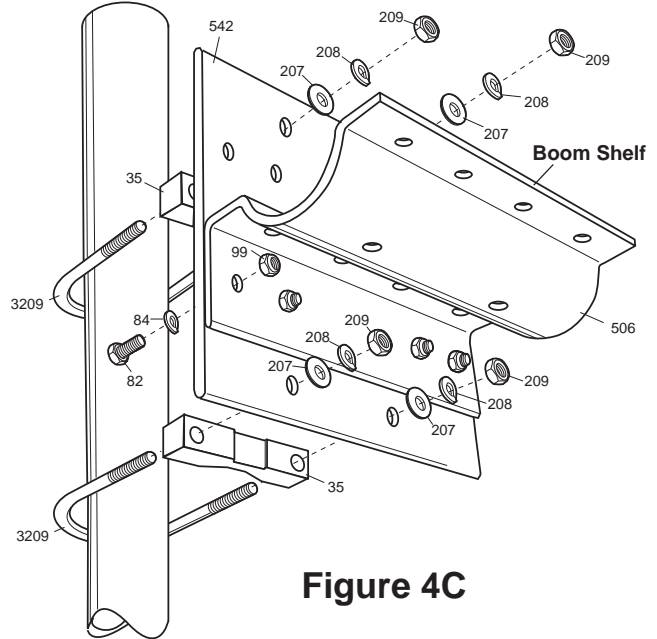

Figure 4C
The feed system consists of 2 sub-assemblies. They are the feed-straps (Figure 4B) and the matching network (Figure 4C).
Reference Figure 4C for matching network mounting. Attach matching network (MN) to boom with two worm clamps (81). Connect copper braid feed straps (FS) from matching network terminals to aluminum straps (FL) as shown. Form drip loops in the copper feed straps (FS) and position them as shown.